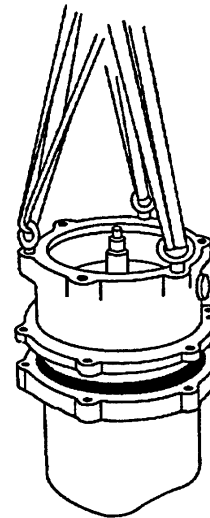

Figure 5. Separating Upper and Lower Motor Housings
Slide the seal spring over the shaft and bellows retainer, and install the spring retainer (18). Install the seal retaining ring (17). See Figure 5 for proper order of seal assembly.
Unpack the stationary seat, and check that the O-rings are properly installed (see Figure 5). Press the stationary element into the seat, making sure that the grooves in the element engage the lugs on the seat. Apply a **light** coating of oil to the seal plate bore and the outer O-ring. Keep the sealing face dry.
Slide the seal spring over the shaft and bellows retainer. See Figure 5 for proper order of seal assembly.
See Figure 5, and install three 5/8-11 UNC lifting eyes (not supplied) in the tapped holes for the capscrews (58) in the lower motor housing, and hook a three-leg sling to the lifting eyes. Use a suitable hoist to support the pump.